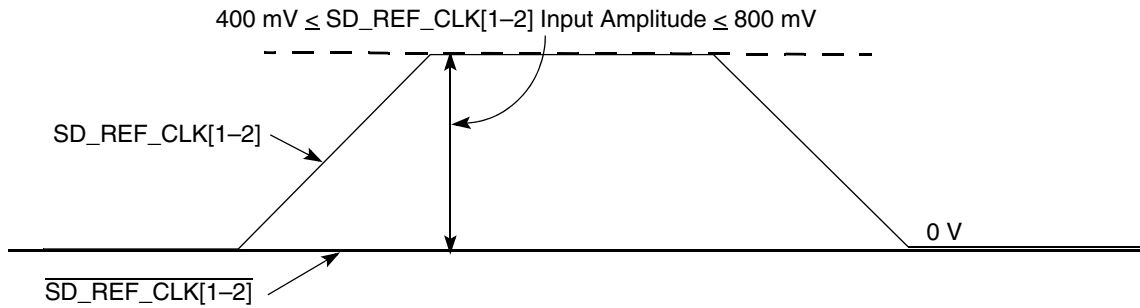

Figure 7. Single-Ended Reference Clock Input DC Requirements
- The SD_REF_CLK[1-2] input average voltage must be between 200 and 400 mV. Figure 7 shows the SerDes reference clock input requirement for single-ended signaling mode.